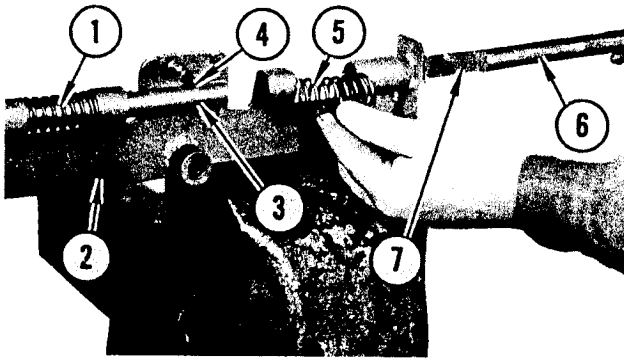

FIGURE 3. SPRING AND PAWL
Install spring (1) into latch body (2), Figure 3. Insert lock pawl (3) through open-